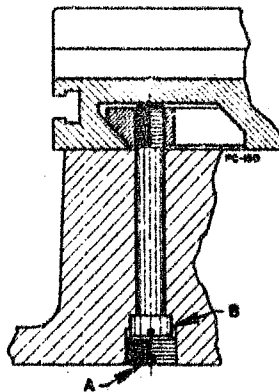

Figure 52A
1. Remove the four set screws "A" from the bottom of the housing. (Figure 52A)
The driving worm of the 16" table may be entirely disengaged from the wormwheel by moving lever "A" (Figure 52A) to the right until the pin falls into the lower pin hole. The table is then free to revolve independently of the worm.